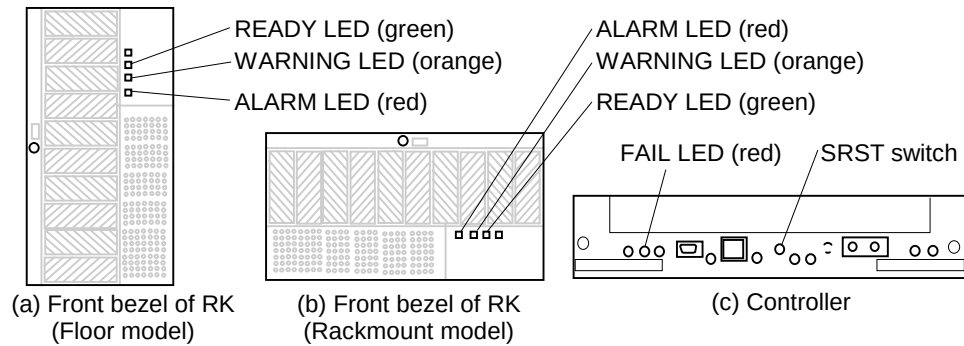

Figure 7.3.1 Indication Name
- (a) Turn off the main switch of the subsystem and make sure that the POWER LED (green) on the panel goes out. (See Figure 7.3.1.)
- (i) Press the SRST switch of the Controller#0. (See Figure 7.3.1.)